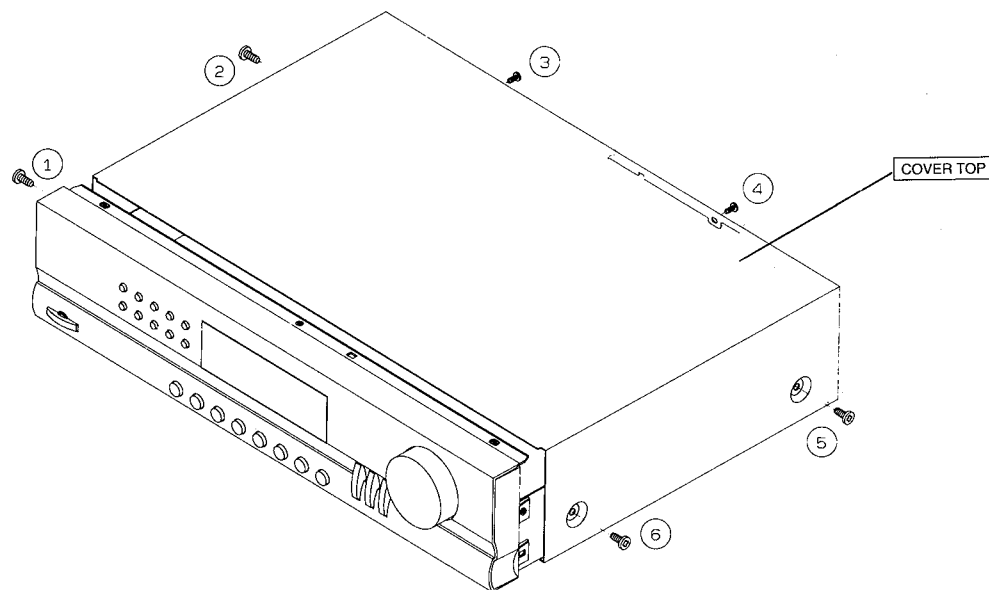

Fig. 1
1. Remove screws ① to ⑥ in Fig. 1, and then remove the cover by sliding it to its rear a little.